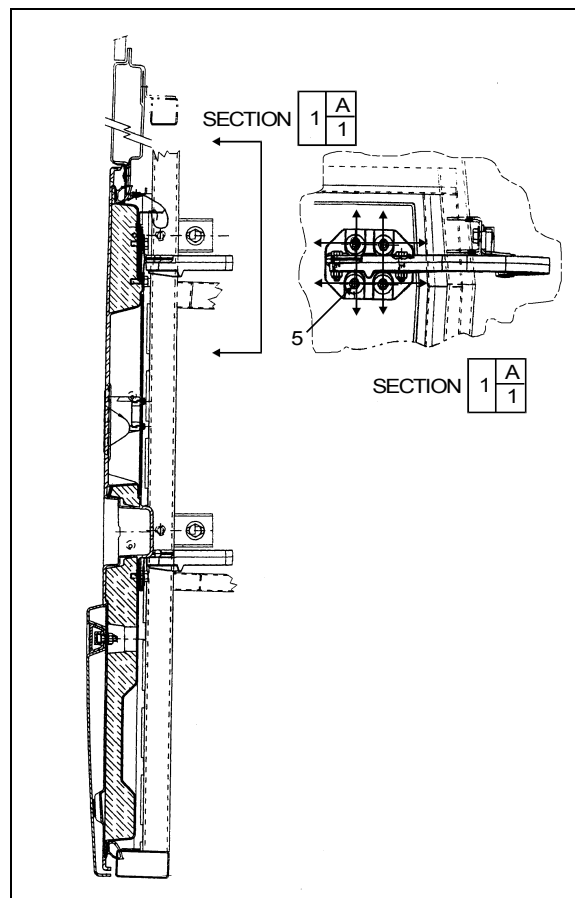

FIGURE 72: FRONT SERVICE DOOR
7. Loosen screws (5, Fig. 72) to allow the door to be shifted "UP or DOWN".